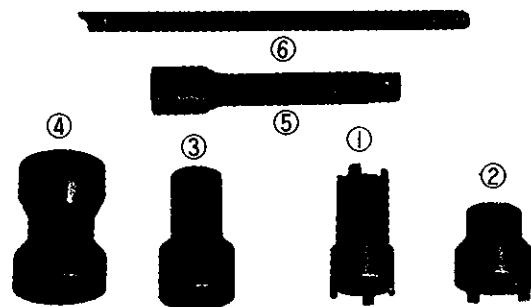
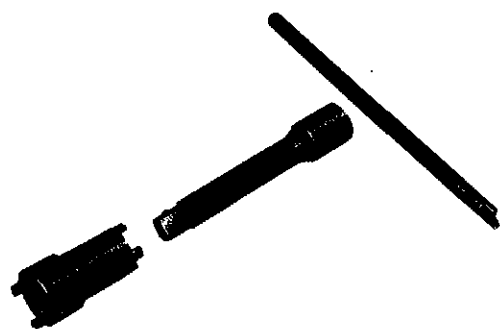
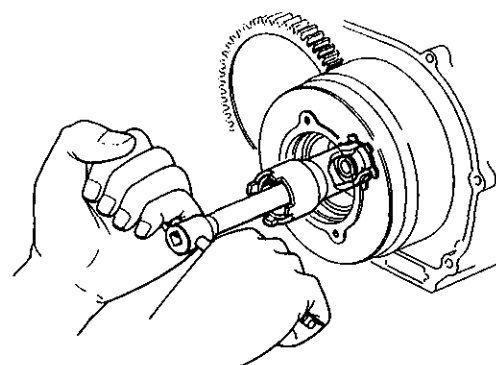
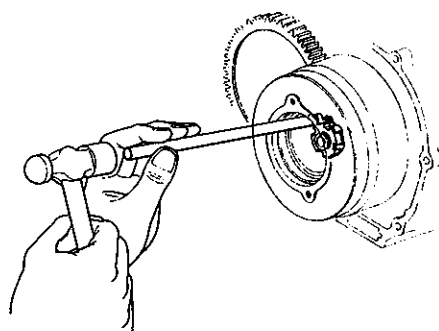

Fig.1
Fig.2
Fig.3
Fig.4
This tool is for loosening or tightening the lock nut when disassembling or reassembling the clutch. (Fig.1)
- ① Fit extension and handle (Fig.1-⑤⑥) to the wrench (Fig.1-①④) of the correct size matching the shape and size of the lock nut. (Fig.2) Next, fit wrench onto lock nut and turn the handle to tighten or loosen the lock nut. (Fig.3)
- ② To raise or bend the lock washer serrations, use end portion of the handle (Fig.1-⑥) and gradually lift up all of the serrations. (Fig.4) When assembling, always ensure that all of the lock washer serrations are bent before tightening the lock nut.